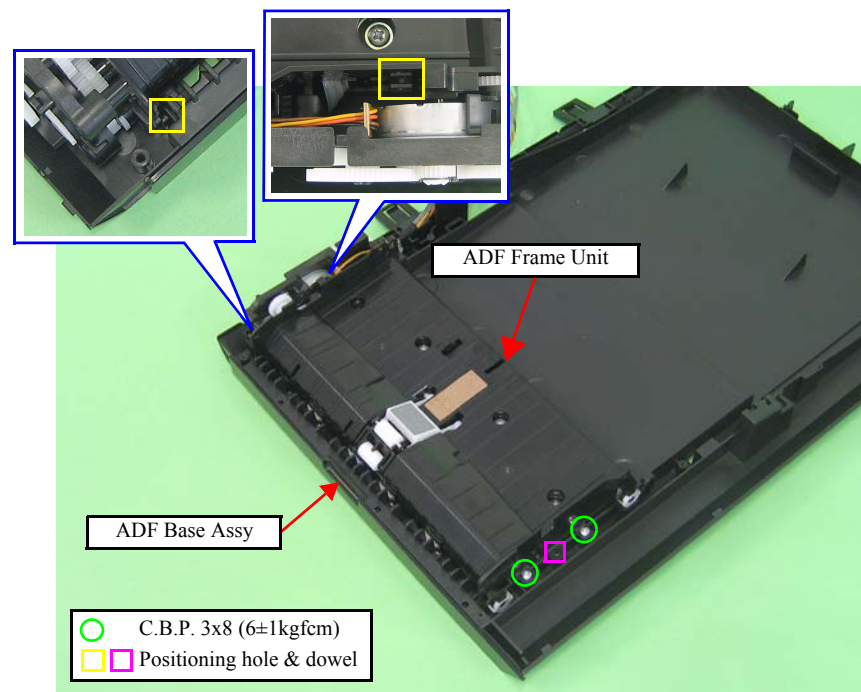

Figure 4-192. Removing the ADF Frame Unit (2)
- When installing the ADF Frame Unit, align the positioning holes (x3) of the ADF Frame Unit and ADF Base Assy with the dowels (x3) as shown in Fig. 4-192.